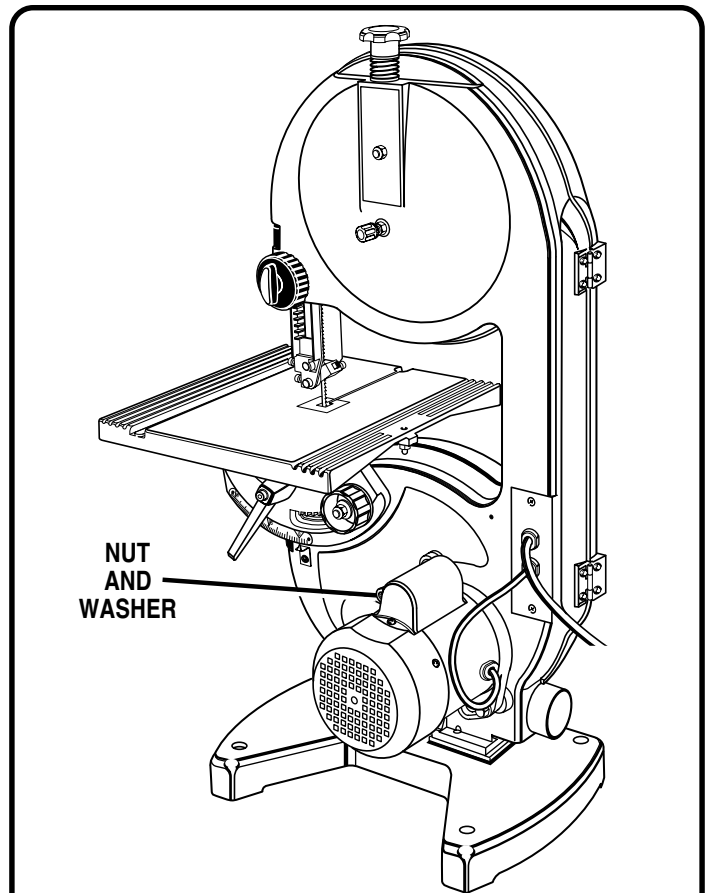

Fig. 20
See Figures 20 and 21.
- Remove the nut and washer from the middle of the saw housing. See *Figure 20*.